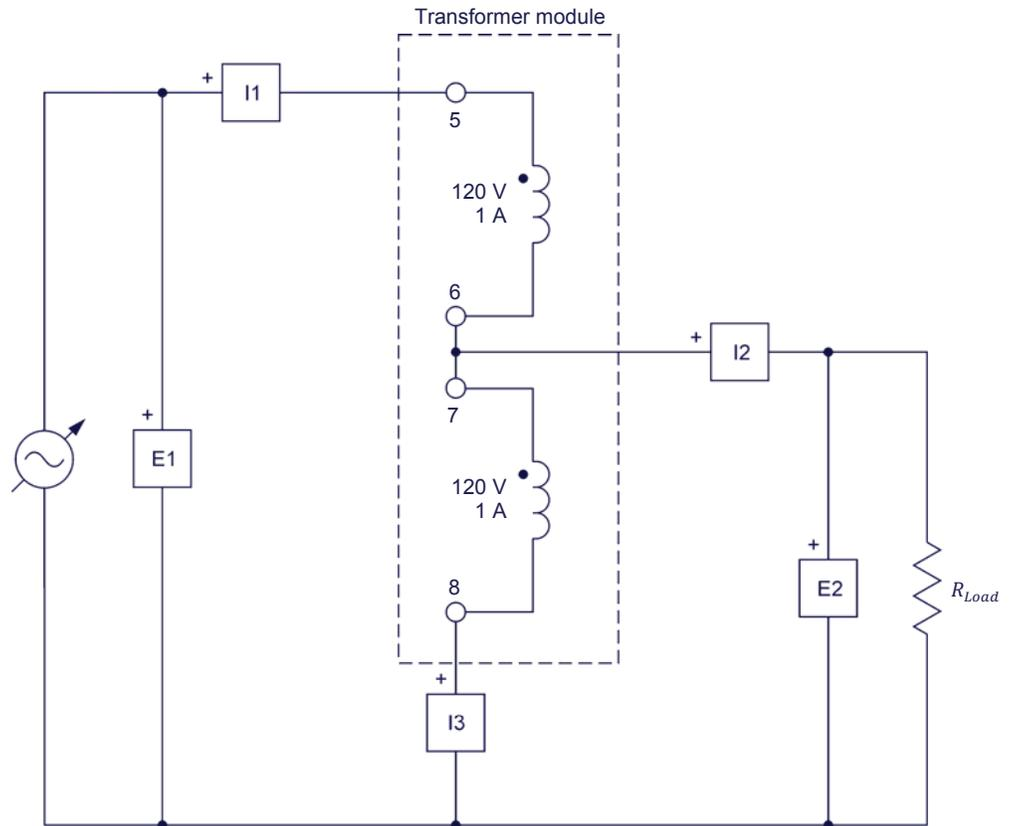
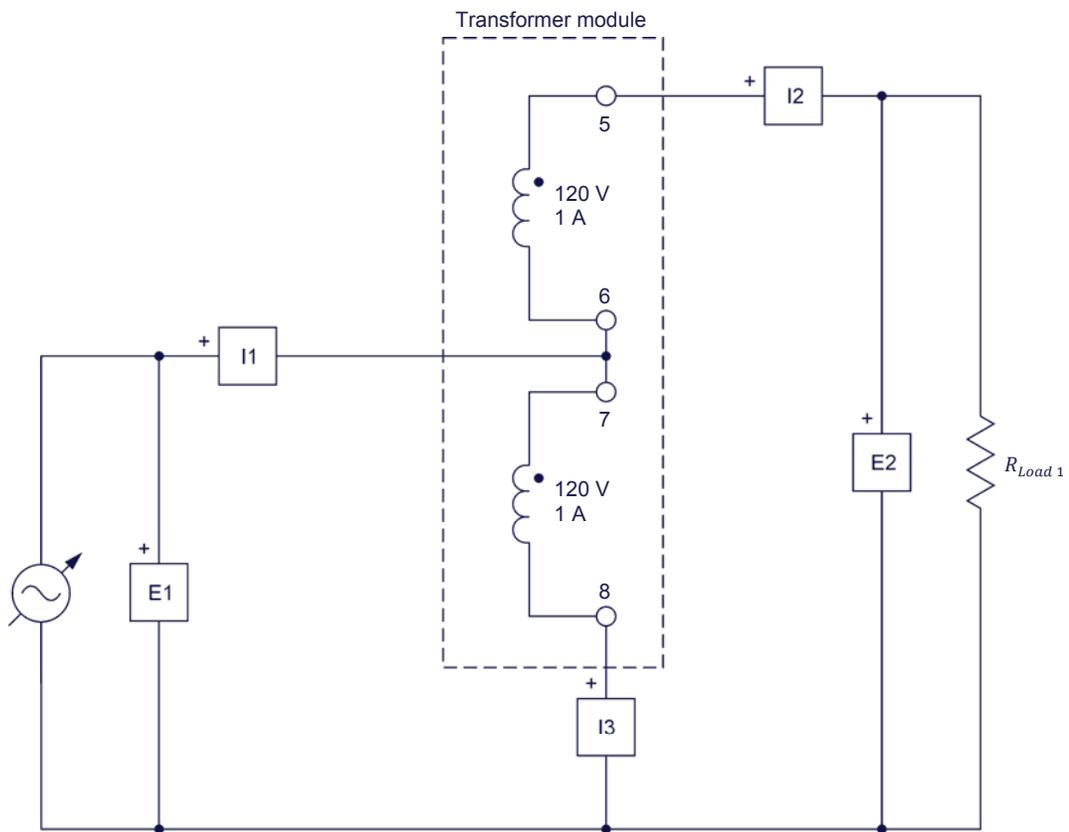

Figure 41. Step-down autotransformer connected to a resistive load.
Figure 42. Step-up autotransformer connected to a resistive load.
6. Connect the equipment as shown in Figure 41. Notice that, in this circuit, the two 120 V - 1 A windings are connected in series-aiding configuration to form the single winding of the autotransformer.
17. Connect the equipment as shown in Figure 42.
- 26.** Determine what would be the power rating of a conventional 120 V:120 V power transformer implemented with the same two 120 V - 1 A windings as those used to implement the step-down and step-up autotransformers in Figure 41 and Figure 42, respectively.